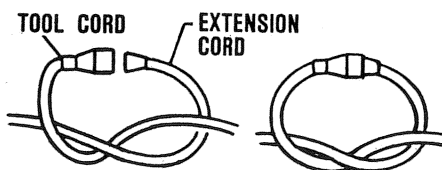

FIGURE 4A
- To prevent disconnection of the shredder cord from extension cord when operating, make a knot as shown in Figure 4A.
3. Connect the shredder cord to the extension cord as shown in Figure 4A.